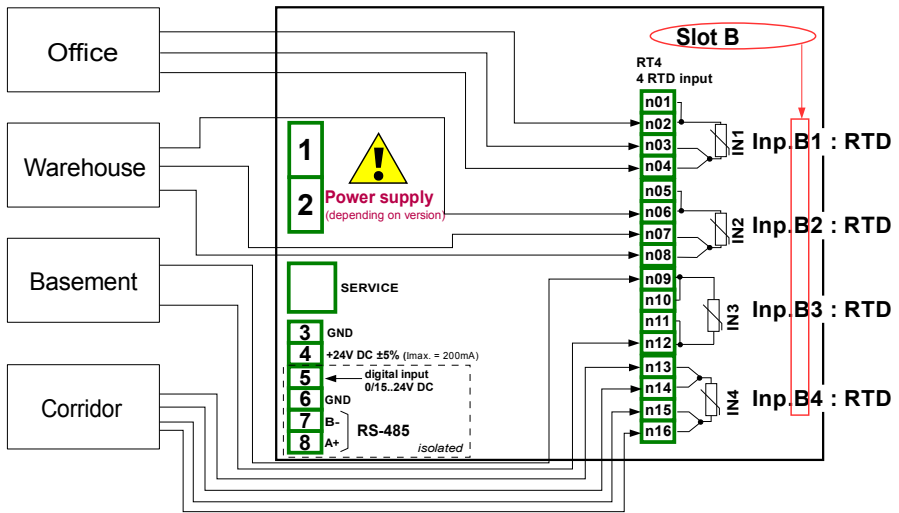

Fig. 7.69. Schematic diagram for the RT4 module
Before measuring the temperature the user should configure the device and then connect the sensors as shown in **Fig. 7.69**.
- **Source** parameter set as **Inp. B1: RTD** (see the connection in Fig. 7.69),